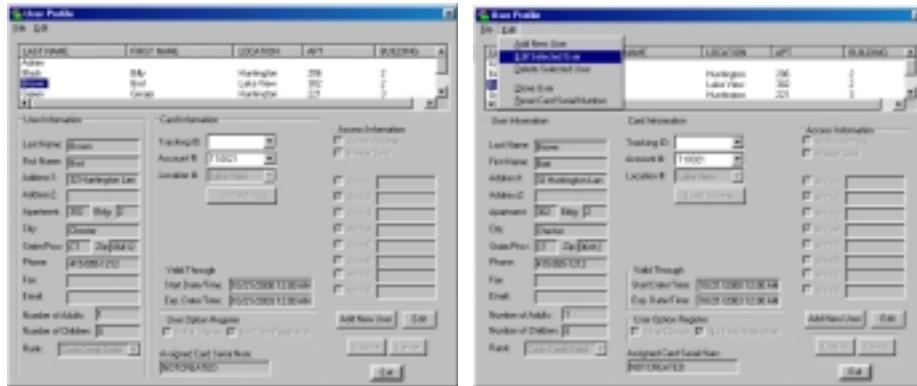

Figure 6.4 Editing a User
2. Click the user you wish to edit from the Users List Window (Figure 6.4).
3. Select Edit Selected User from the Edit drop-down menu (Figure 6.4).